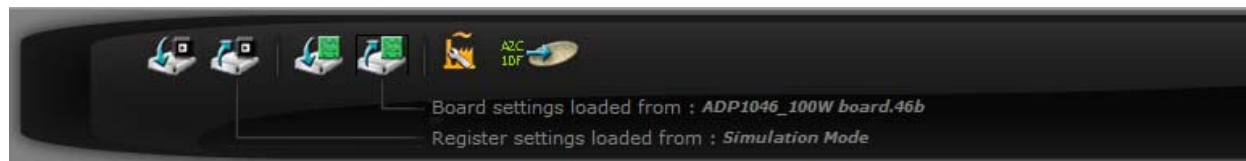

Figure 9 - Different icons on dashboard for loading and saving .46r and .46b files
6. **The IC on the evaluation board comes preprogrammed and this step is optional.** The original register configuration is stored in the ADP1046A_100KHz_Hard_switching.46r register file. Note: All register files have an extension of .46r. The file can be loaded using the second icon from the left in Figure 9.